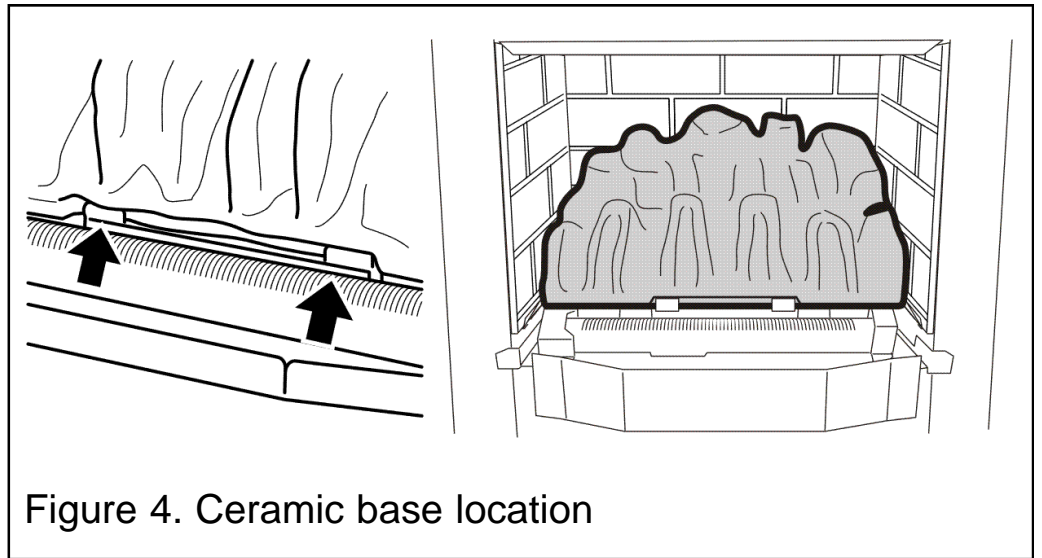

Figure 4. Ceramic base location
*1.* Place the ceramic base coal in the burner compartment. The bottom rear face of the coal should rest on the angled ledges at the back of the burner compartment. The bottom front recess edges on the coal base should locate against the tags at the front of the ceramic support (See figure 4).